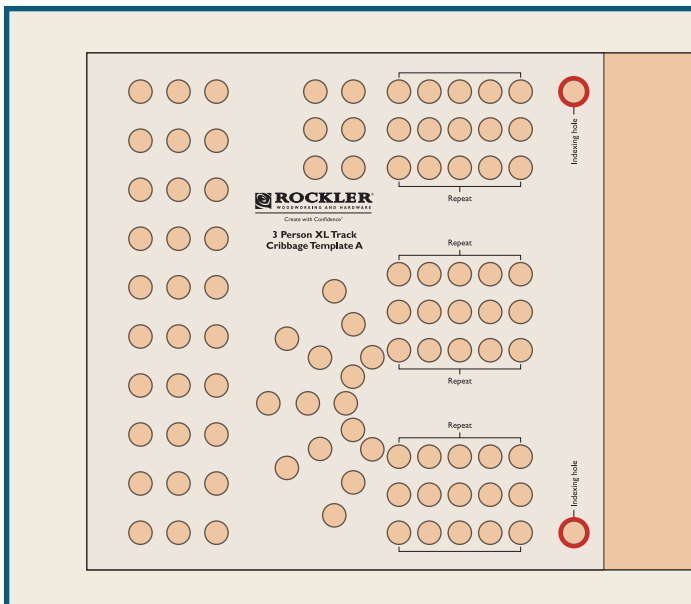

Fig. 1
2. Chuck the included Self-Centering Bit in a handheld drill and drill the two holes outlined in red in **Fig. 1**.